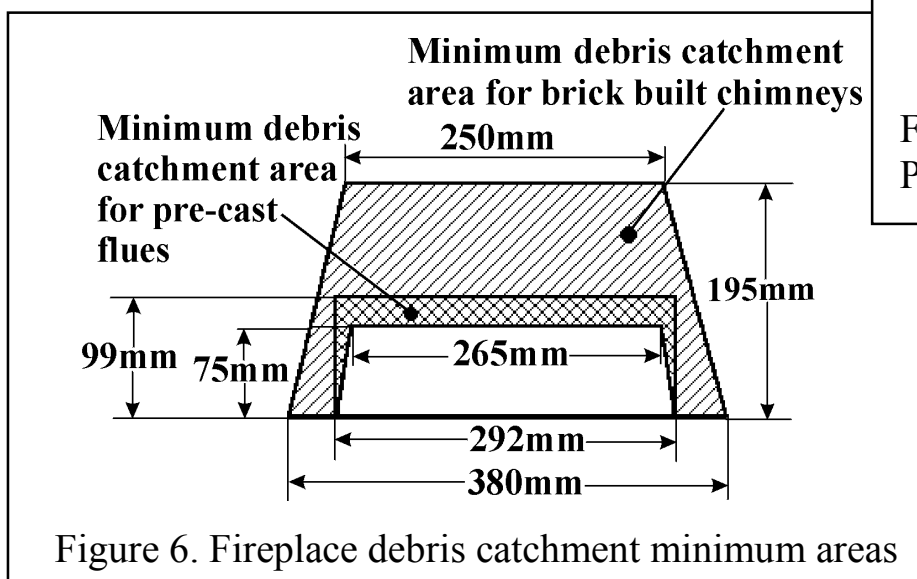

Figure 6. Fireplace debris catchment minimum areas
5.3.2 The debris catchment area shown in figure 6 must be kept clear of obstructions.